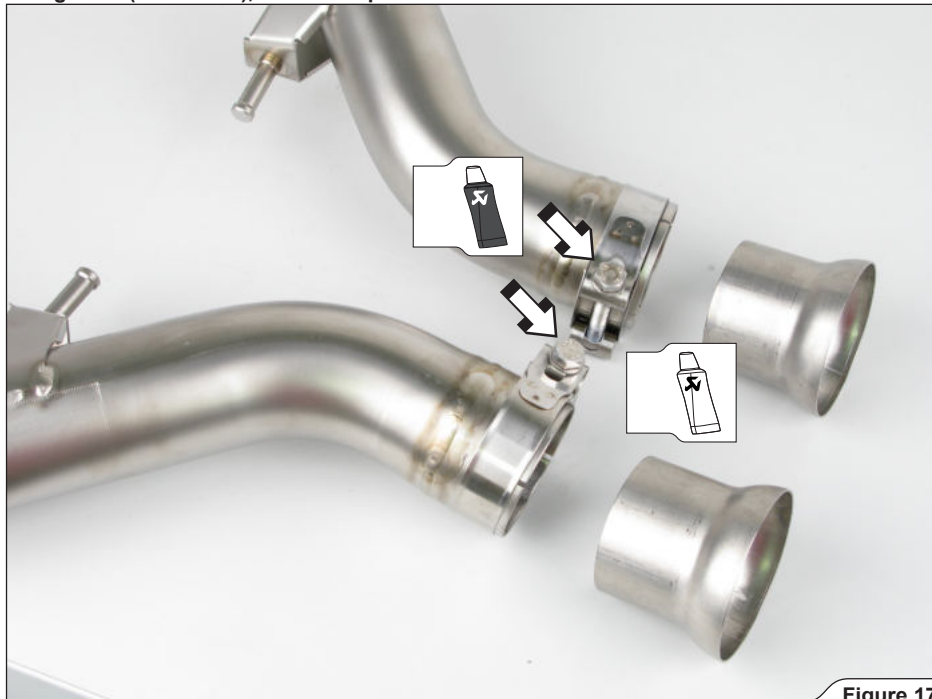

Figure 17
7. **For Slip-On:** attach additional metal clamps and tube adapters to Akrapovič muffler pipes (Figure 17).